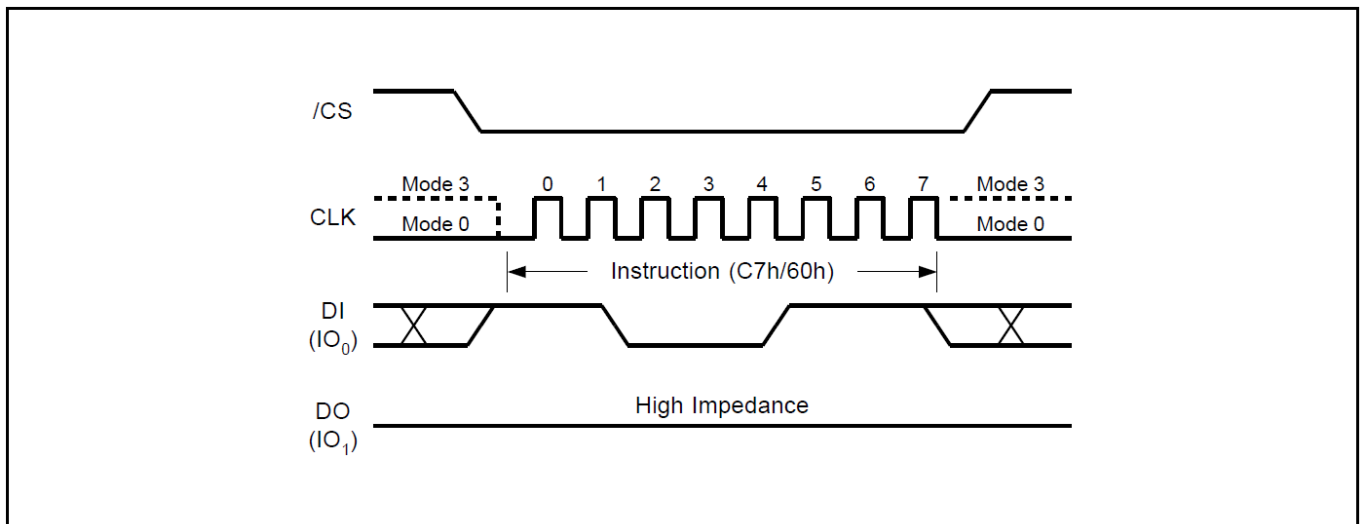

Figure19. Chip Erase Sequence Diagram
The Deep Power-Down Mode automatically stops at Power-Down, and the device always in the Standby Mode after Power-Up. The Deep Power-Down command sequence: CS# goes low → sending Deep Power-Down command → CS# goes high. The command sequence is shown in Figure19. CS# must be driven high after the eighth bit of the command code has been latched in; otherwise the Deep Power-Down (DP) command is not executed. As soon as CS# is driven high, it requires a delay of  $t_{DP}$  before the supply current is reduced to ICC2 and the Deep Power-Down Mode is entered. Any Deep Power-Down (DP) command, while an Erase, Program or Write cycle is in progress, is rejected without having any effects on the cycle that is in progress.